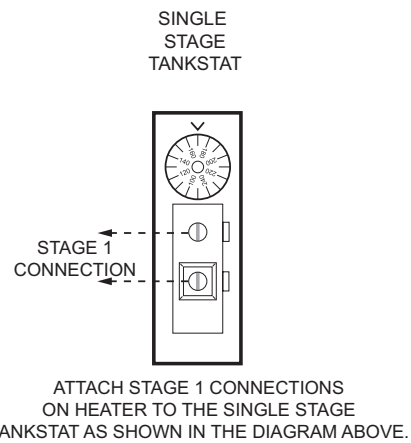

Fig. 26: Single-Stage Tankstat
3. For single-stage controller connections, attach the stage 1 connections on heater 1 to the tankstat per Fig. 26.